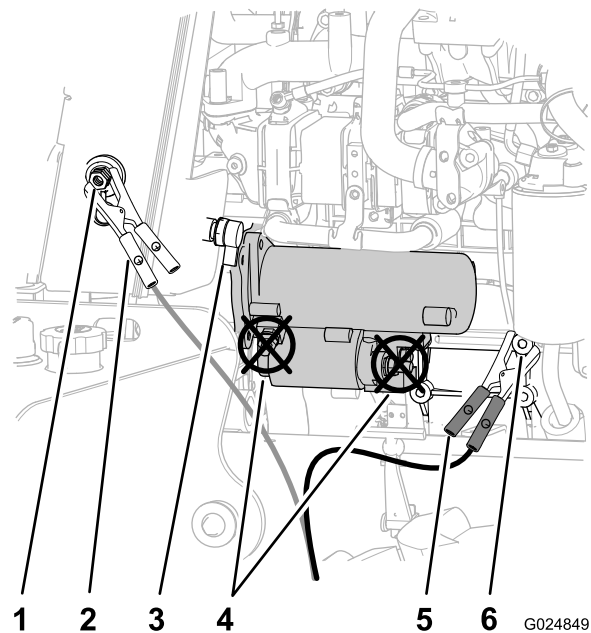

Figure 78
4. Remove the cover from the jump post (Figure 78).
5. Connect the positive (+) jumper cable to the jump post (Figure 78).
6. Connect the negative (-) jumper cable to a ground point, such as the nut at the pivot point for the alternator (Figure 78).